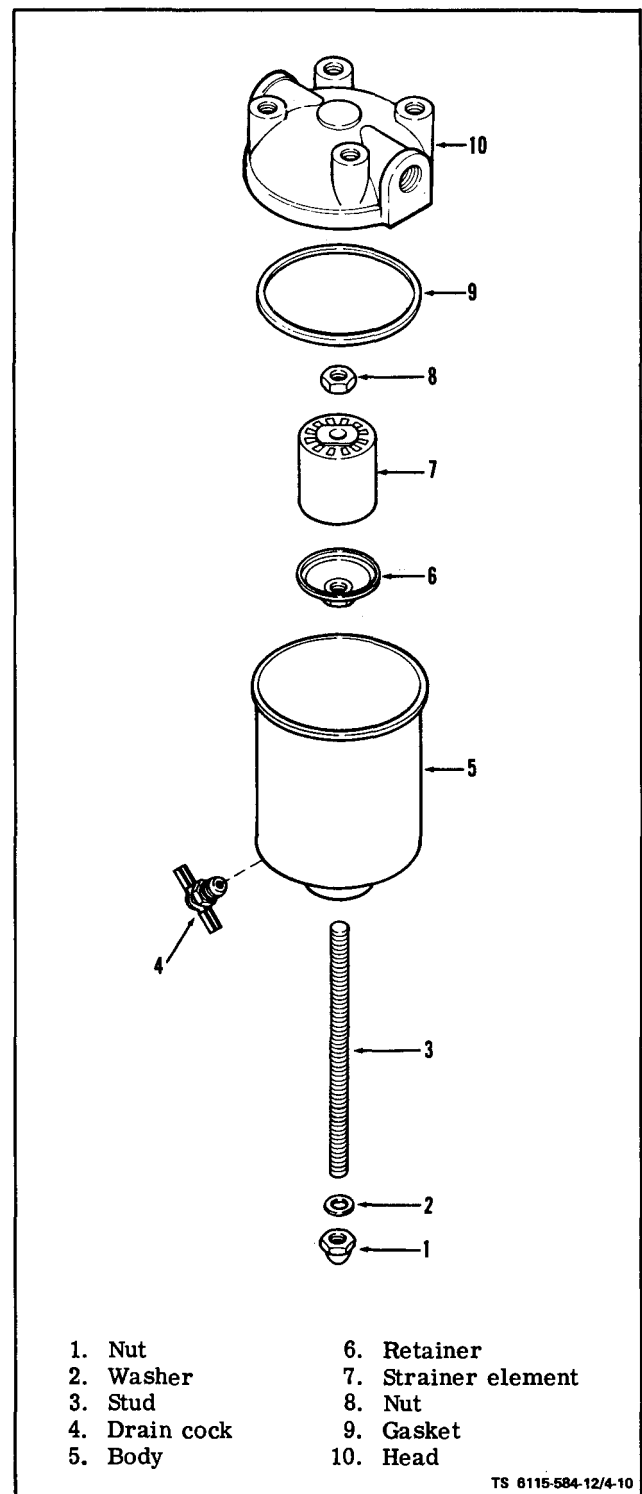

Figure 4-10. Fuel Strainer Element
(2) Fuel Strainer Element (see figure 4-10). Open drain valve (4) and drain fuel into suitable container. Remove nut (1) and washer (2) attaching body (5) to head (10) and remove body and gasket (9). Remove retainer (6) and remove strainer element (7). Inspect element for physical damage or clogging.